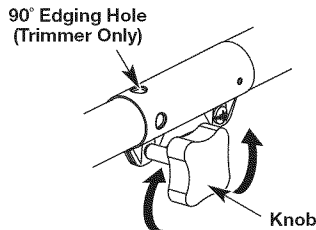

Fig. 3
- Turn knob counterclockwise to loosen (Fig. 3).
- Turn the knob clockwise to tighten (Fig. 3).
For decorative edging with the line head trimmer attachment or other attachment, lock the release button of the attachment into the 90° hole (Fig. 3).
- Turn the knob counterclockwise to loosen (Fig. 3).